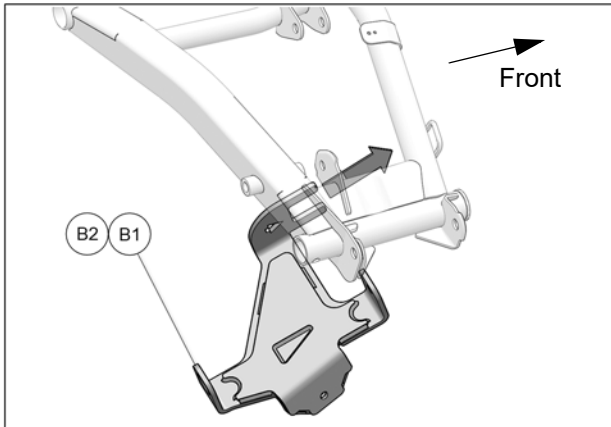

Fig. 5
- Hook back of anchor bracket (**B1-B2**) up to lower suspension arm member that faces front. See Fig. 5